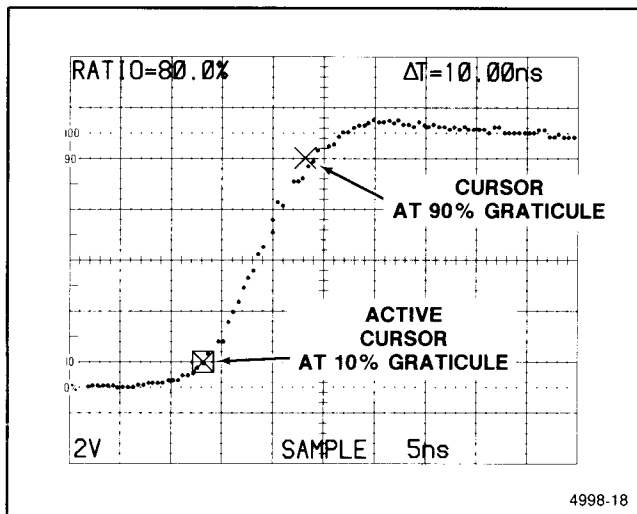

Figure 6-5. Rise time, cursor method.
10. Push the SELECT C1/C2 button to select the other cursor, and use the CURSORS control to move the active cursor up the waveform's leading edge until the RATIO readout is 80% (see Figure 6-5).